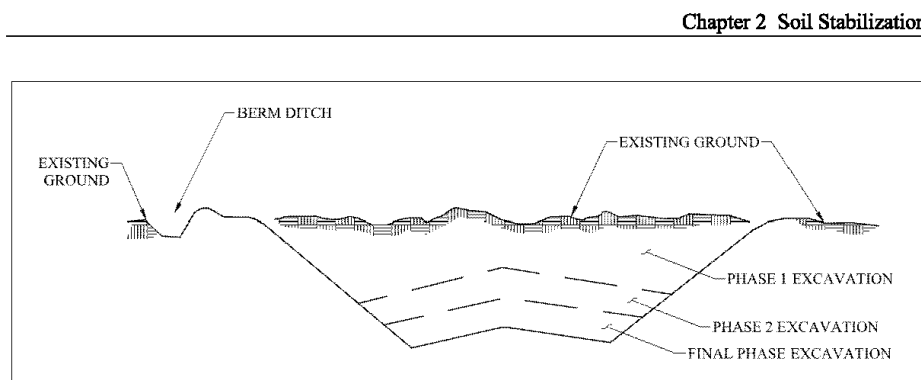

Figure 2.1 Incremental stabilization - cut.
- THE CONSTRUCTION SEQUENCE IS AS FOLLOWS (REFER TO FIGURE 2.1):